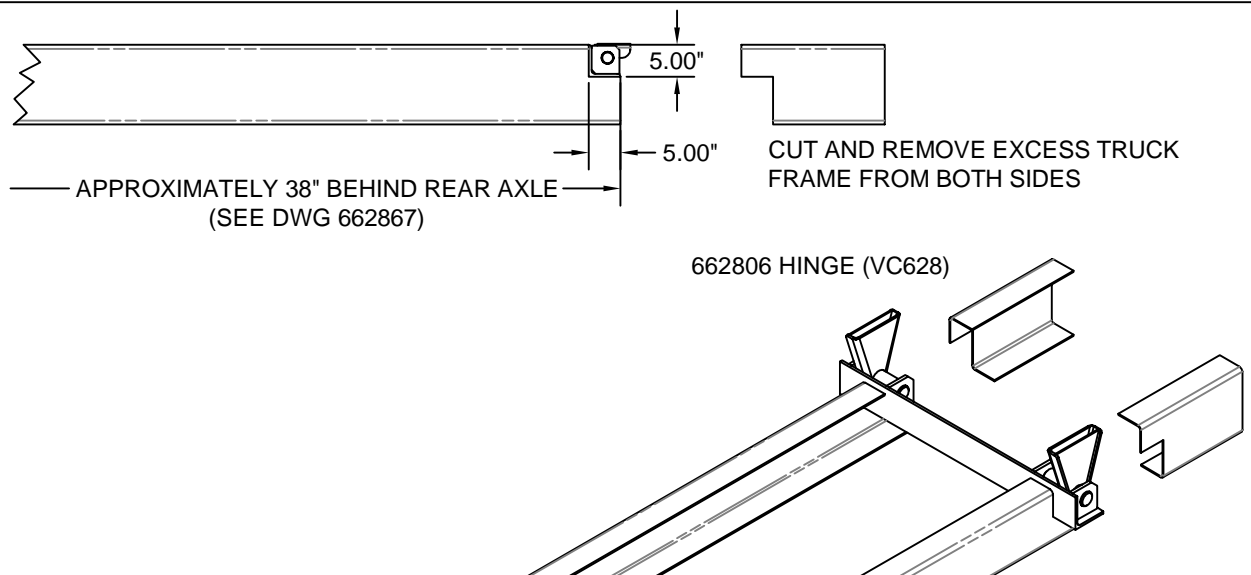

Figure 2 - Frame Modification and Rear Hinge Attachment
- Cut a 90° slot in each side of the frame as shown in Figure 2 below.
With the body aligned with the truck frame, push the hinge rockers outward as far as possible. Ensure that the longitudinal rails are sitting flat on the rockers, weld the body longitudinals to rockers (DWG 662871 Figure 2). See installation DWG 628861 for more information regarding the mounting of the rear hinge rockers to the body.